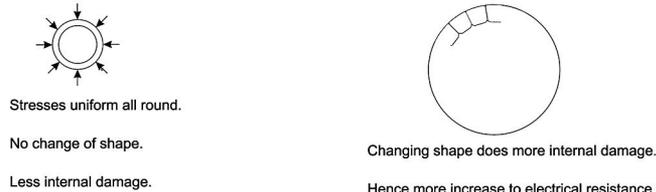

Fig. 3 — Deformation during compacting.
1. Quality of the Conductor Body: Friction is the enemy of most things in cable compacting. We tend to think of compacting as a light and easy finishing process, but actually it is an extremely difficult process in which a cone of individual wires are brought into the compacting die at an angle of up to 30°, which greatly increases the contact length of the wires on the die surface. Hence friction is immediately increased on the wires forming the outer layer. Then the wires in the outer layer are significantly deformed, beginning at the line of contact with the compacting die. In a drawing process, the stresses and deformations are uniform around the full 360° of the cross section, but in compacting, we put flat surfaces on the cross-section, creating the classic “trapezoidal” cross sectional shape (see **Figure 3**). If the friction forces are appreciable, this extreme deformation causes damage which extends deep below the surface of the conductor, due to the additional frictional shear forces. The damage to the metal is done internally at the microscopic level. The scientific name for this damage is called crystal dislocation. The result is work hardening (familiar) and increase in electrical resistance or reduced electrical conductivity (not so familiar).